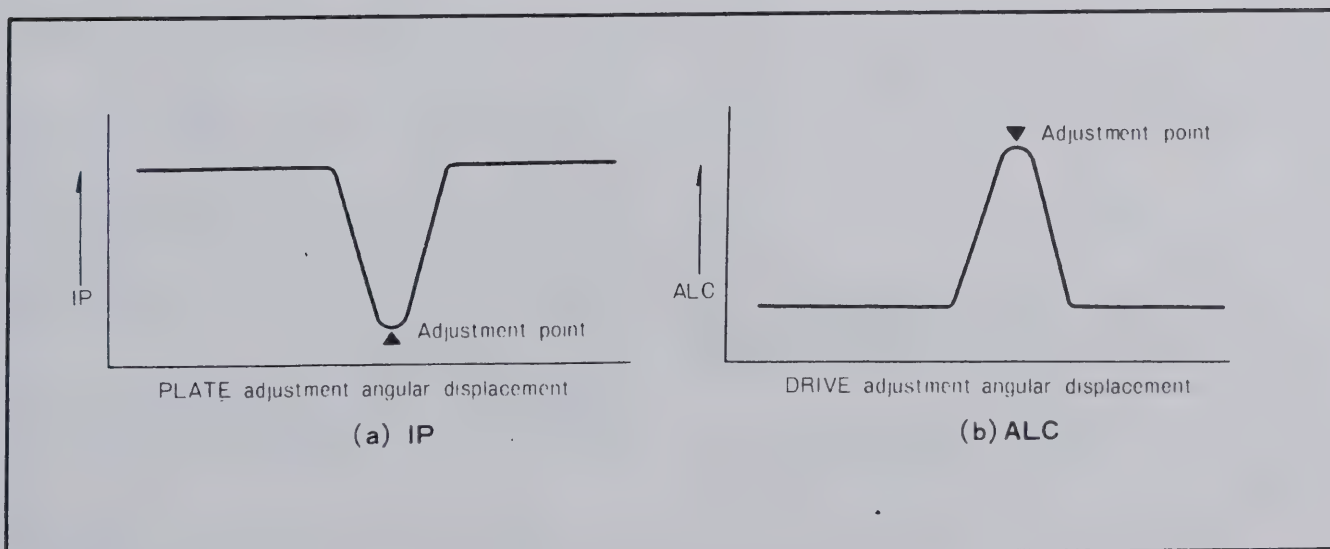

Fig. 11 Plate and Drive Tuning
■ DRIVE TUNING (See Figure 11)
■ PLATE TUNING (See Figure 11)